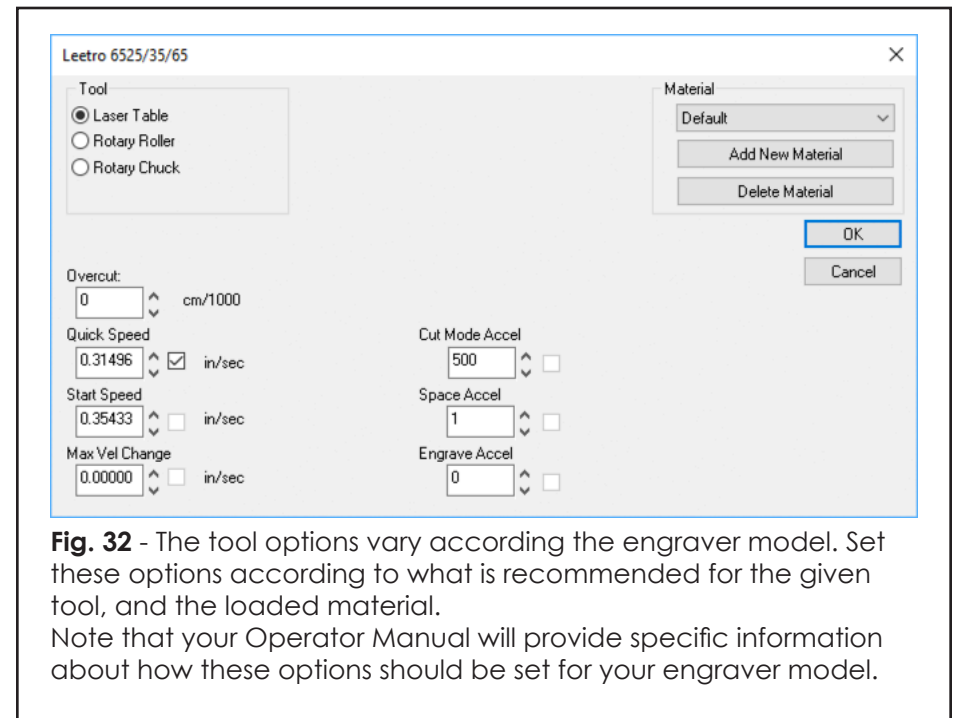

Fig. 32 - The tool options vary according the engraver model. Set these options according to what is recommended for the given tool, and the loaded material.
- 7. The **Tool Options** dialog (Fig. 32) is used to set the feeds and speeds that will be used with your machine.